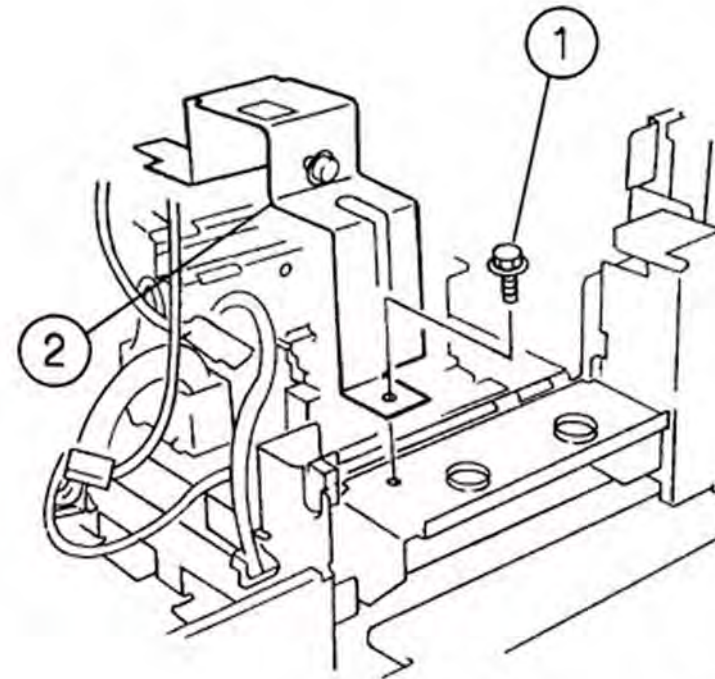

Figure 1 Removing the Bracket
5. Remove the Bracket (Figure 1).